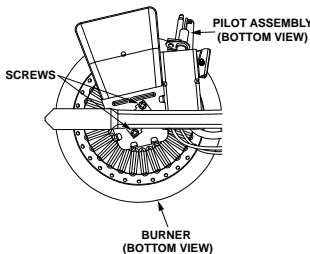

FIGURE 24.
- Take off the burner by removing the two (2) screws located underneath the burner.
- Check the burner to see if it is dirty or clogged. The burner may be cleaned with soap and hot water (Figure 24).
- Remove the burner to access the pilot/thermopile assembly. Remove and keep the screws securing the burner to the manifold (Figure 24). IMPORTANT: DO NOT remove the orifice.
- Using the pilot screw removed earlier, attach the new pilot/thermopile assembly. Reattach the burner to the manifold using the screws removed earlier. NOTE: Make sure the burner scoop is oriented to the pilot side of the manifold tube (Figure 24).